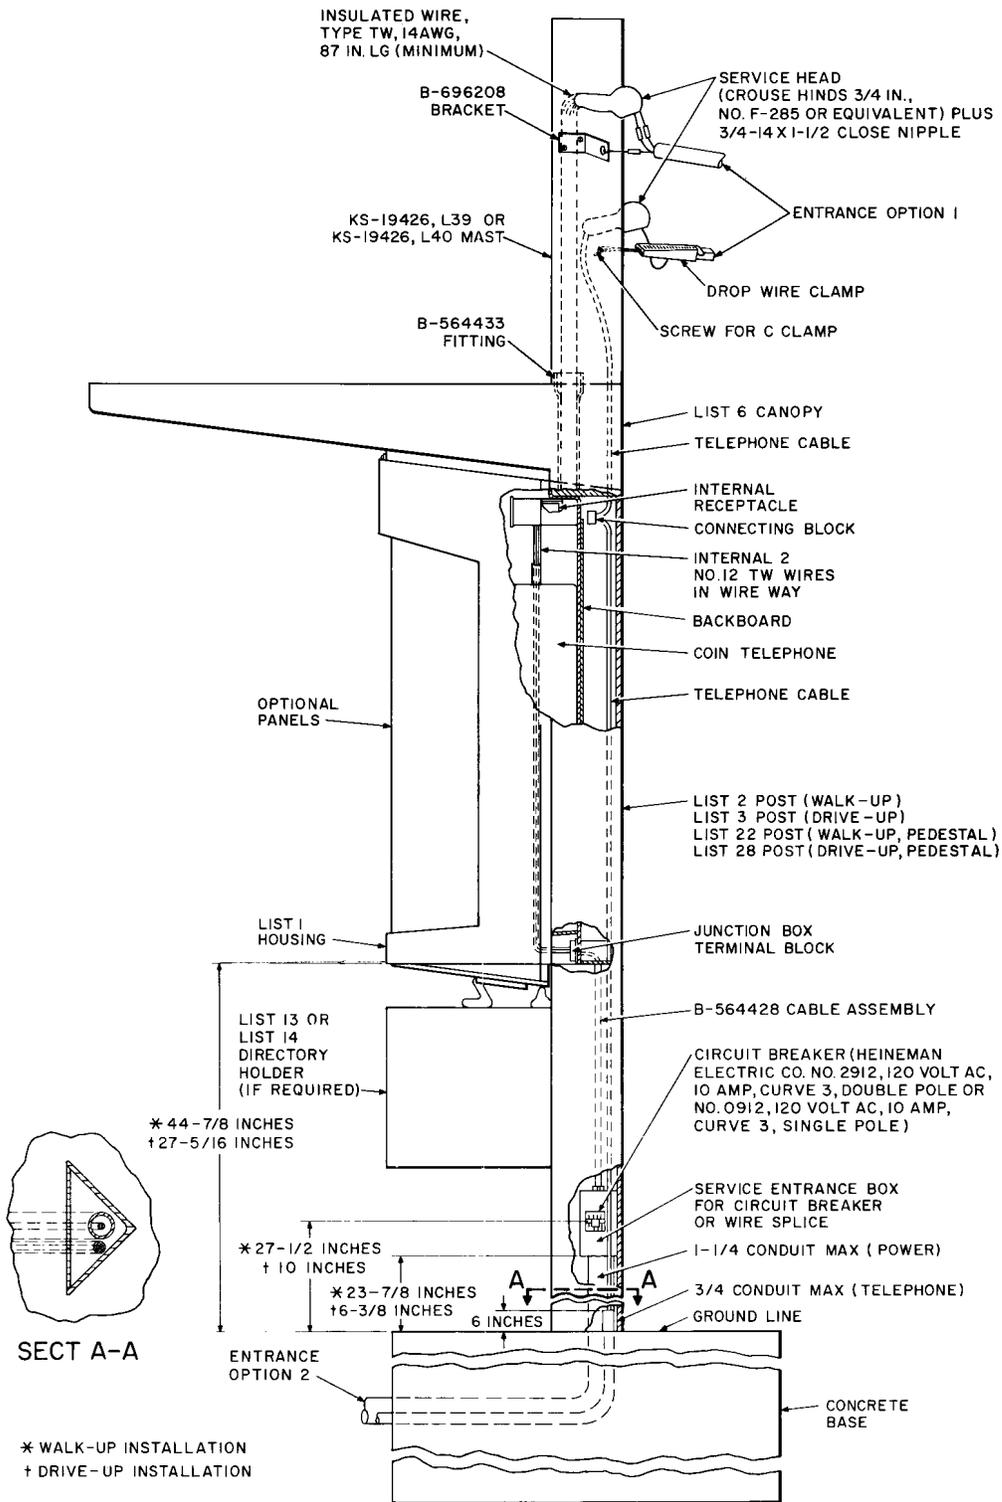

Fig. 5—Installation Requirements for Post or Pedestal Mounting
- (c) Install the post to the base over the underground entrance hole using four 5/8-11 by 1-1/2 hex head bolts. Do not tighten bolts. See Fig. 5 for installation requirements.
2.20 Embed KS-19426, List 2 post(s), for walk-up mountings, or KS-19426, List 3 post(s), for drive-up mountings, in the center of the base to concur with the dimensions shown on Fig. 5.